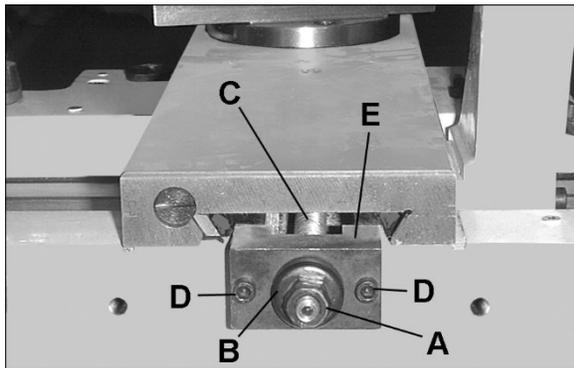

Figure 1
- Remove two nuts (A, Figure 1) and bearing cap (B, Figure 1) from end of cross slide screw (C, Figure 1).
- Remove two hex socket cap screws (D, Figure 1) and the block (E, Figure 1). Set these items aside; do not discard them.